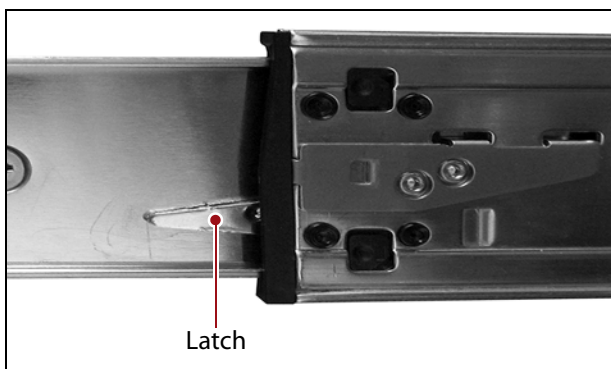

Figure 19 Self-locking latch.
3. Flip the rail assembly over so the outer rail is on top and the self-locking latch is facing you (see Figure 19).